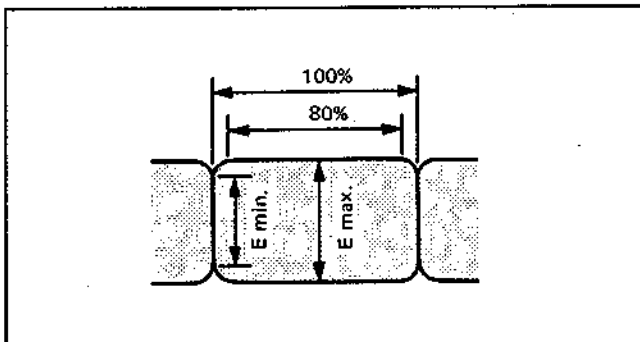

Fig. 2-29
- Confirm that the RF output waveform satisfies the condition in Fig. 2-29. If not, readjust tape path.